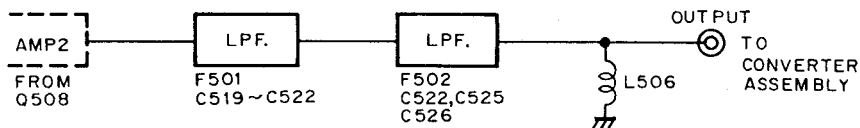

Fig. 36 Filters for Output Signal
4. Filters for Output Signal (Fig. 36)